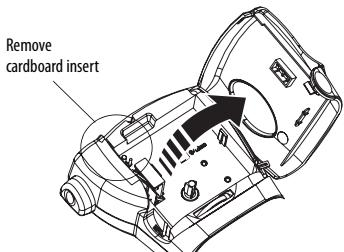

Figure 3
1. Press and release the label cassette cover to open the label compartment. See Figure 3.
! The first time you use the labelmaker, remove the protective cardboard insert from between the print head and pinch roller. See Figure 3.